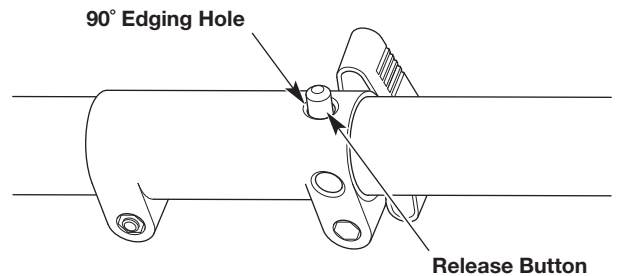

Fig. 15
3. Rotate the attachment until the release button snaps firmly into the 90° edging hole (Fig. 15).